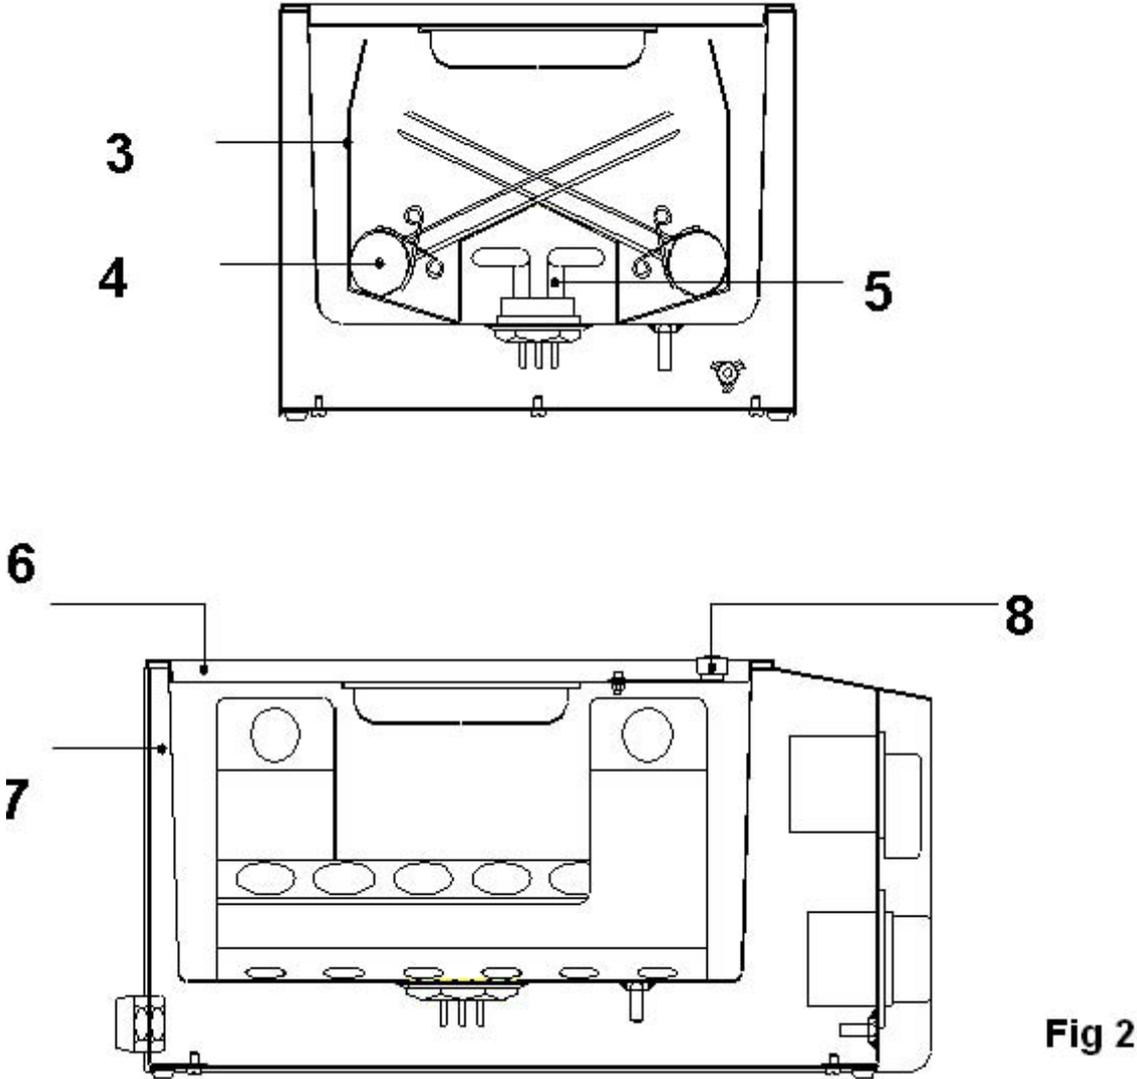

Fig 2
4.5.2 Carefully place the Le Chatelier moulds (4) complete with cement samples on to the rack (3) as shown in Fig. 2 and carefully lower the rack into the bath.